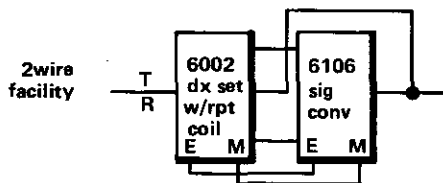

figure 2D. Typical dx application, 2wire-to-2wire
2.06 As mentioned earlier, the 6106 Signaling Converter module can also be used to interface dx signaling units with the ringdown mode of signaling at a termination. Both 4wire and 2wire dx facilities may be served. The 6106 may be paired with a Tellabs 6001 DX Signaling module for use on a 4wire facility, or with a 6002 DX Signaling module (with integral repeat coil) for use on a 2wire facility. In 4wire dx applications, a facility terminating module, such as a 4001 Line Amplifier or a 4414 AVD Amplifier module, must be used to derive transmit and receive simplex leads used as inputs from the facility to the 6001 DX Signaling module. In 2wire applications, a repeat coil is integral to the 6002 DX module, and no external facility interface module is required (see figure 2D). Refer to the 6001/6002 Practice for additional information on Tellabs dx units.